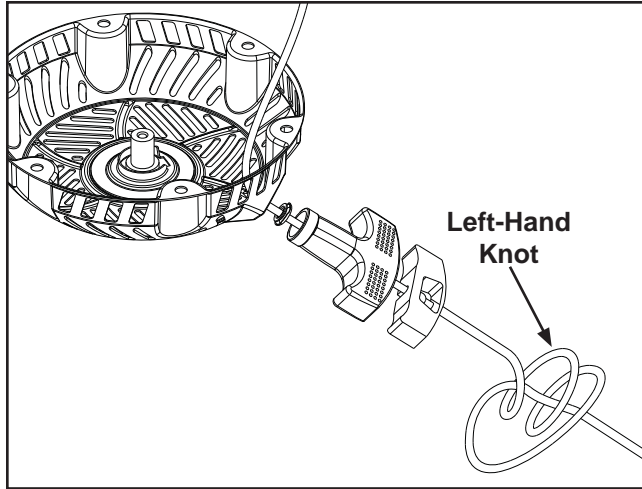

Figure 7-6. Handle Left-hand Knot.
11. Slip the handle onto the rope. Tie a double left-hand knot at the end of the rope. See Figure 7-6.